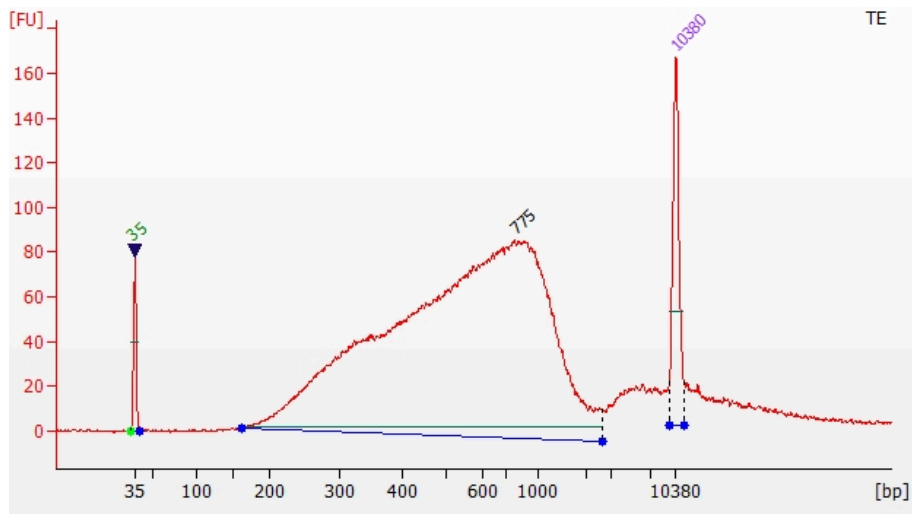

Figure 1 Agilent 2100 Bioanalyzer results of 0.8 x beads purification fragmentation product
- For the first fragmentation test, it is recommended that you take 10 μL of product from step 7 in section 3.2.2 for purification with 0.8 x magnetic beads and elute in 8 μL of En-TE. Take 1 μL of elute product for Agilent 2100 High Sensitivity test and ensure that the smear size is 100 bp - 3000 bp with the peak size between 600 bp - 850 bp. For example: 200 ng gDNA dissolved in TE Buffer (pH 8.0), when fragmentation time is 8.5 min, the size distribution of fragments is shown in Figure 1.
**Tips** • The peak size of the selected fragments is approximately 600 bp to 850 bp as shown in Figure 1.